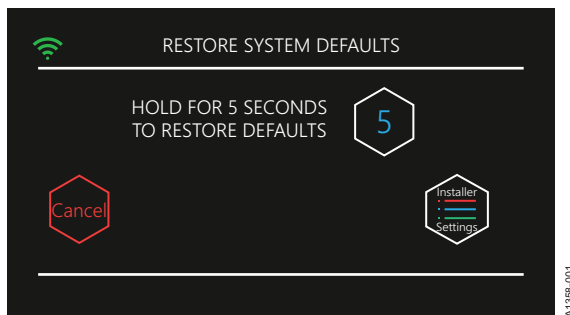

Figure 64: Hx 3 Touch Screen Thermostat (Main Control) - Restore system defaults
Use the Main Control to access a list of installer settings. To do so, go to **System Settings > Restore System Defaults** and tap the **Installer Settings** icon. See Figure 64. This list contains current installer equipment settings, that is, settings configured after completion of the auto setup process. The list does not include settings configured by the homeowner, so note the homeowner settings separately. It is advisable to record the installer and homeowner settings before restoring the system defaults. Use the Restore defaults table in the Quick Reference Guide included in the Hx 3 Zone Control Module kit to record installer settings.
- Use the Hx 3 Touch Screen Thermostat acting as the Main Control: Go to **System Settings > Restore System Defaults**. On the **Restore System Defaults** screen, tap and hold for 5 s. See Figure 64.